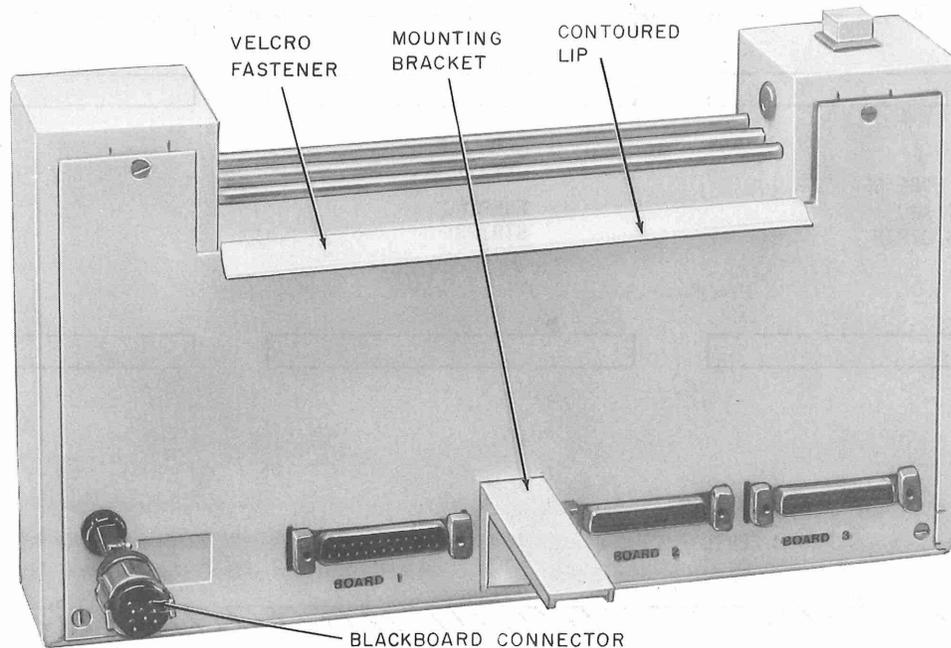

Fig. 28—Control Unit—Rear View
5.11 Mount the 83A control unit at the bottom center of the blackboard. Line up the control unit mounting bracket with the hole on the underside of the blackboard frame and place the contoured lip of the control unit (Fig. 28) so that it mates with the